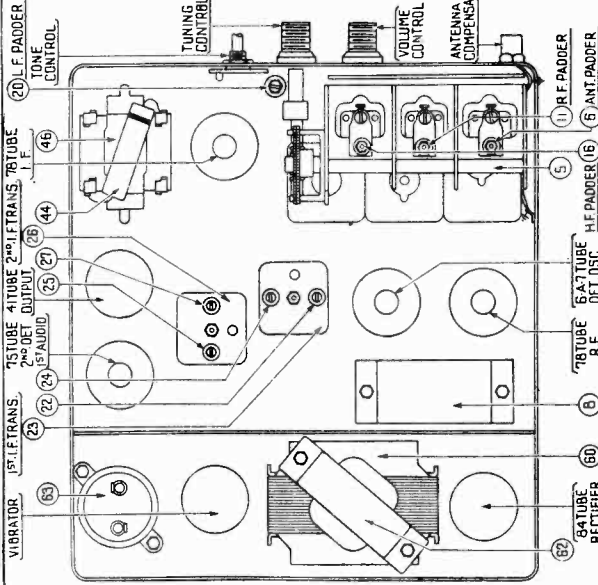

FIGURE 8
**I. F.** — Set the signal generator at exactly 260 K. C. Connect the generator lead to the grid cap of the 6A7 tube in series with a .1 mfd. condenser (without removing the grid cap). Adjust the padders ②, ③, ④ and ⑦ on the first and second I. F. transformers, for maximum reading on the output meter. (See Figure 8 for location of padders).